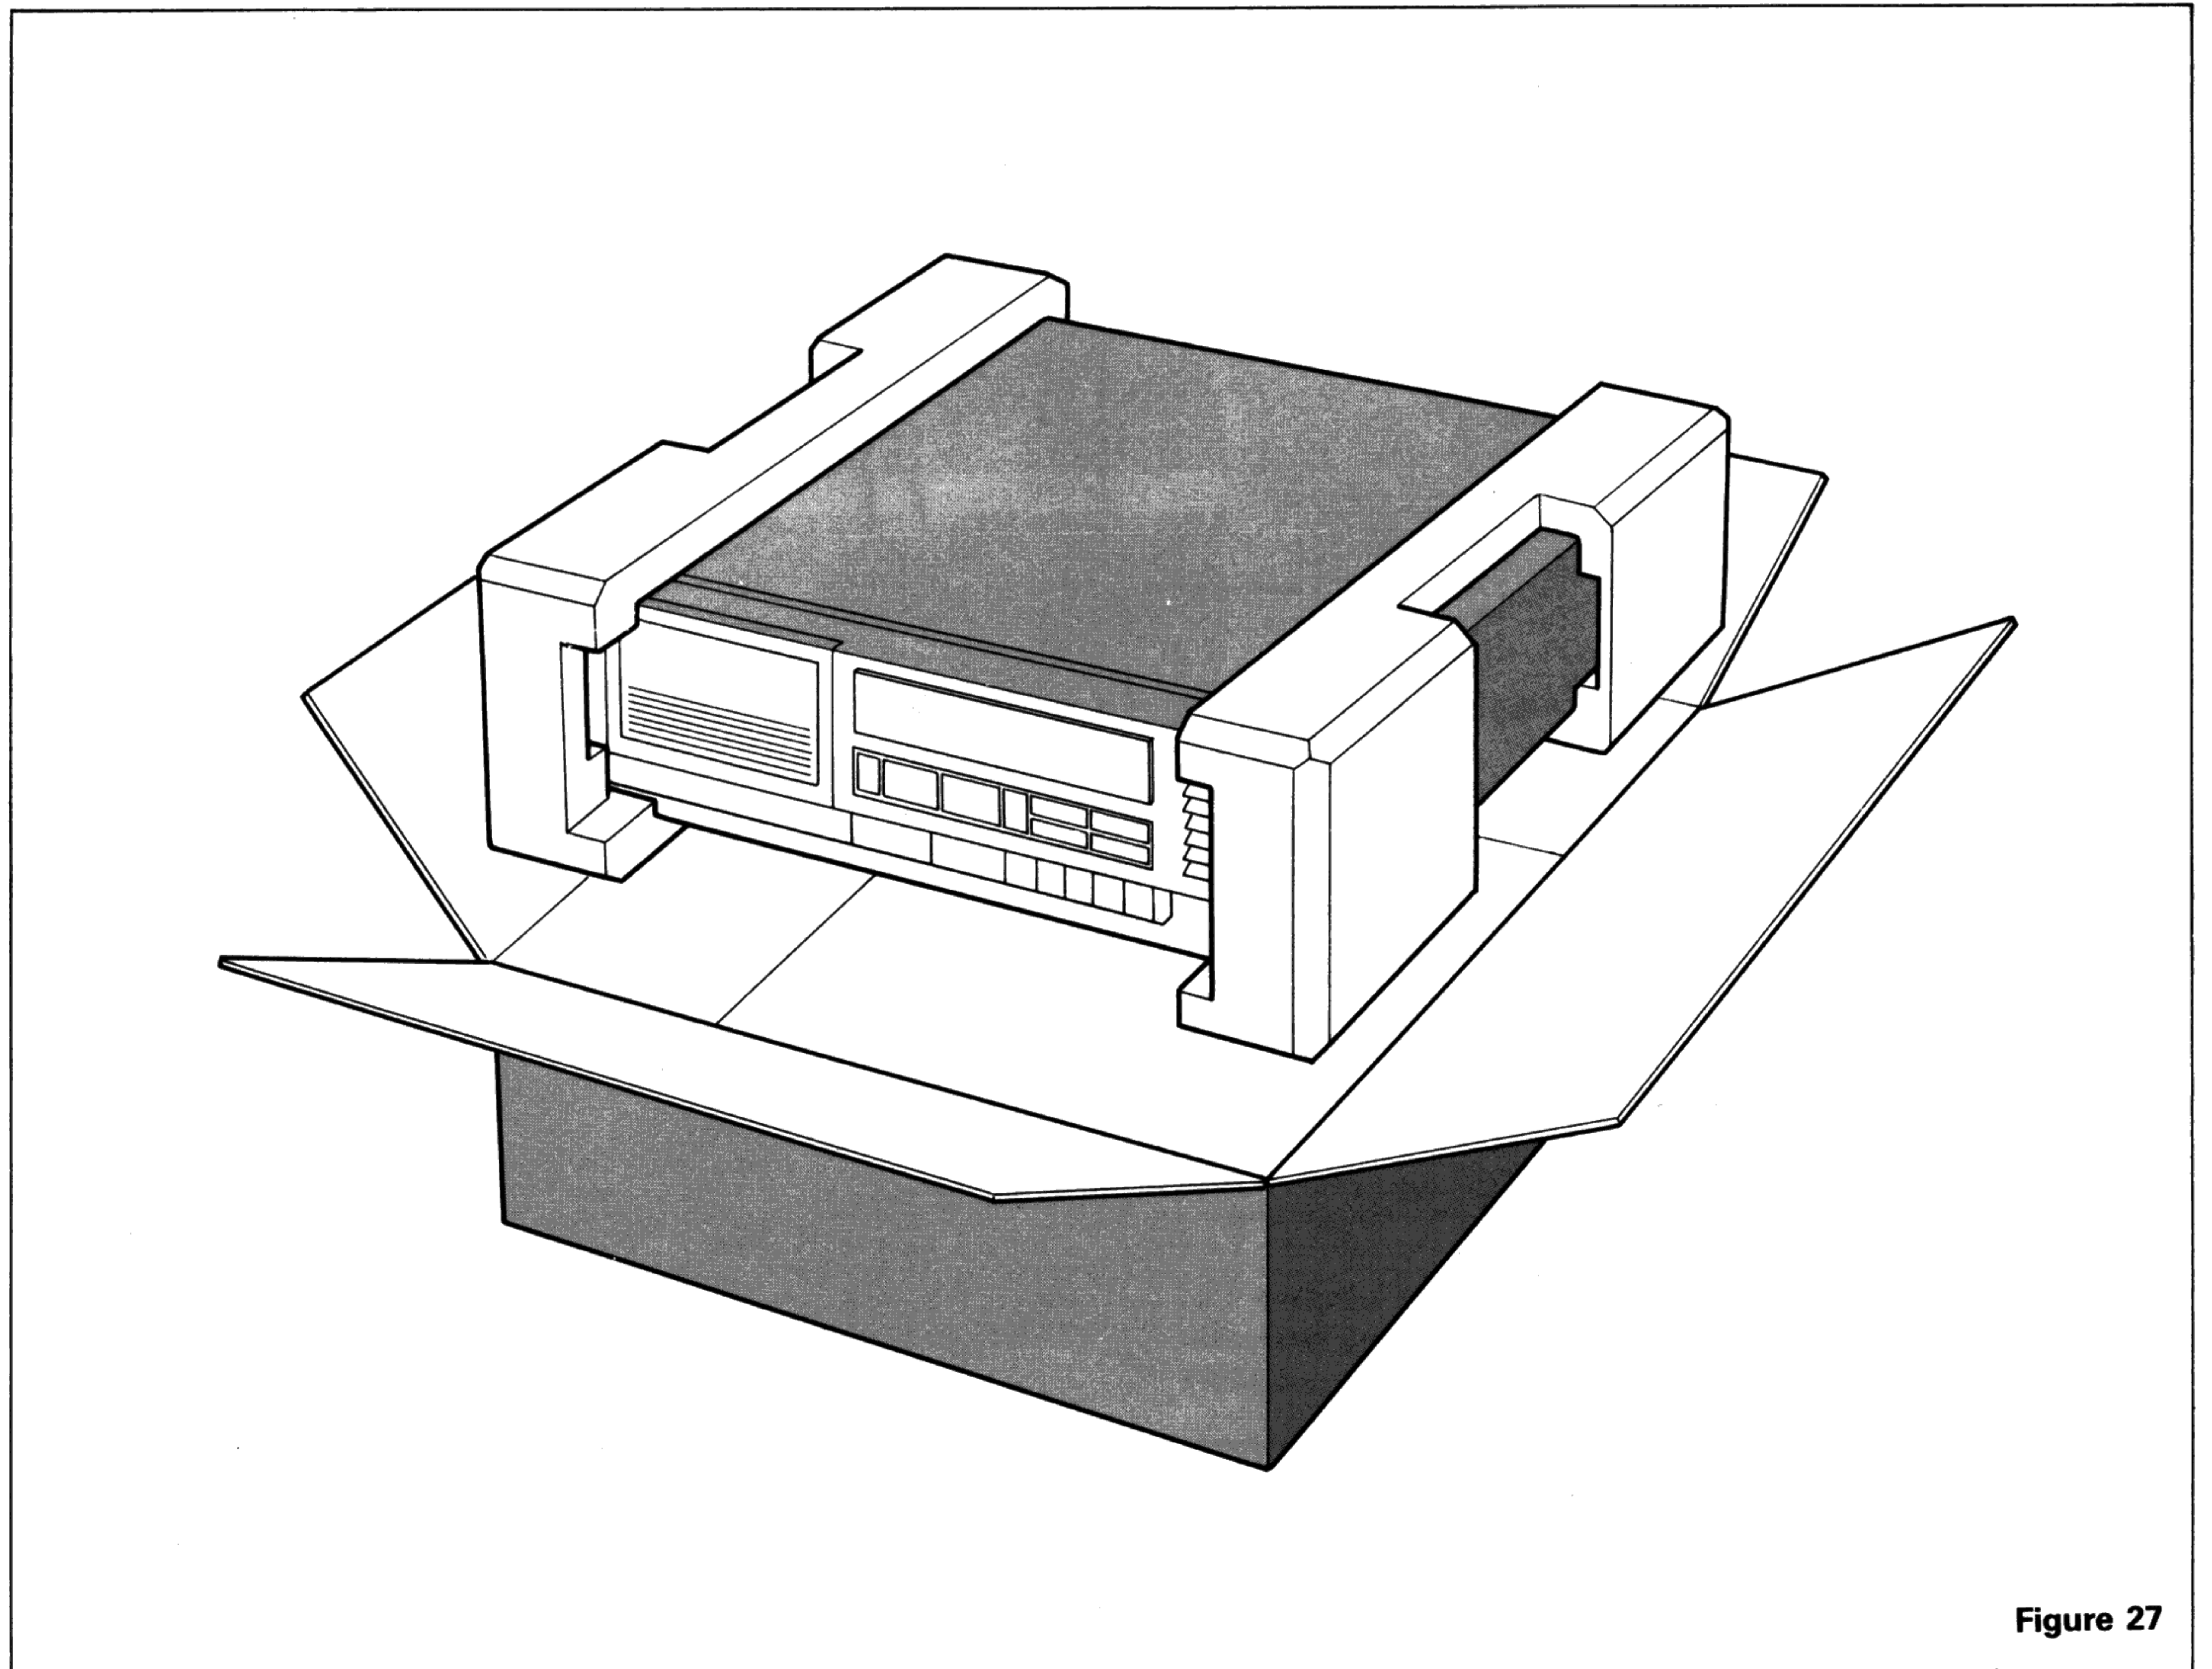

Figure 27
- Pack the unit carefully, using the original material as shown in Figure 27.